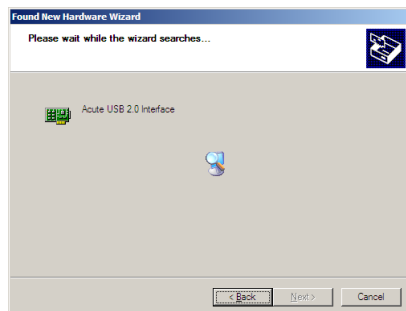

**Figure 1**
- (1) Insert the installation CD and connect the UDS with your PC.
- (2) Enter the hardware wizard when the Windows OS find an USB device (Figure 1) and check “yes. This time only”.